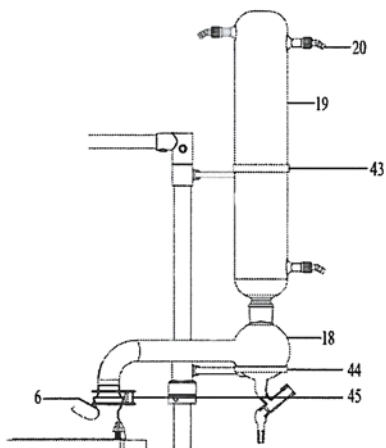

Figure 2.2.6 Installation of Condensing Kit
Fix the support (44) on the frame, put the condensing dispenser (18) on the support (44). Connect the condensing dispenser (18) and the reactor lid joint, adjust the position of support (44), tighten the fixing screw (45) and fixing nut (48). Put the condenser (19) on the upper joint of the condensing dispenser (18), the rubber bracket (43) is locked around the upper portion of the condenser (19), please see figure 2.2.6.2.